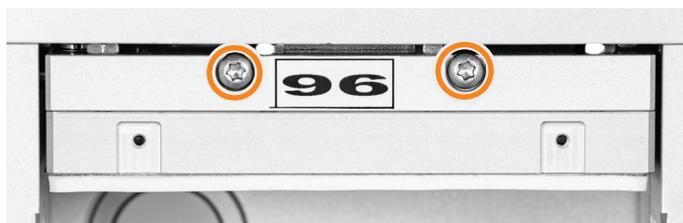

Figure 3. The two screws attaching the pressure head to the pressure unit.
- Remove the two screws holding the pressure head to the pressure unit using the T20 Torx screwdriver supplied with the system; see Figure 3.